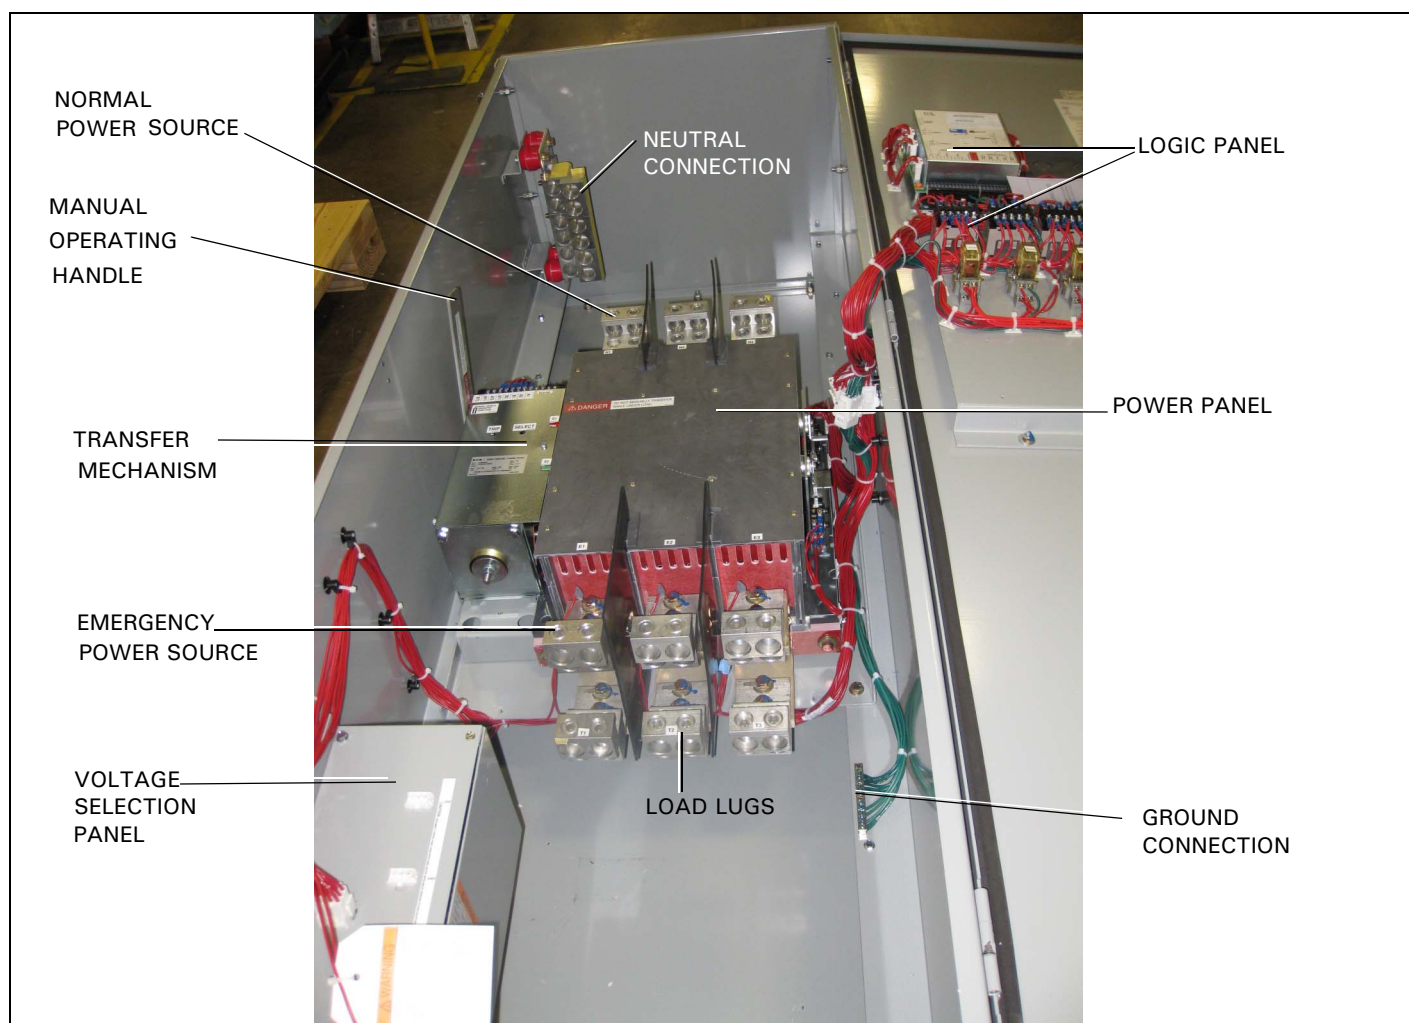

Figure 23. 1200A, 3-Pole, ATS Interior Components.
*Load cables **MUST** be connected and torqued **BEFORE** installing the **SUPPLY** cables (Figures 23).